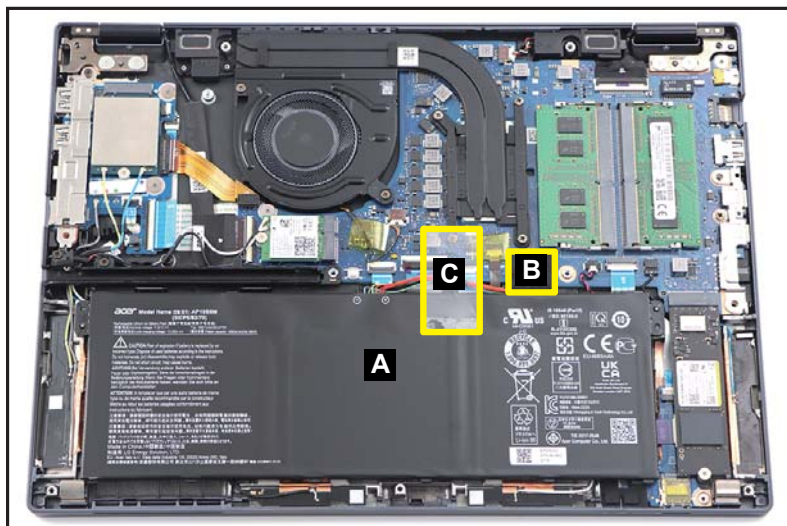

Figure 1-7. Battery Pack Removal
1. Find the battery pack (A) in the system (Figure 1-7).
2. Detach the tape (B) securing the battery cable connection (Figure 1-7).
3. Detach the transparent mylar (C) securing the cables (Figure 1-7).